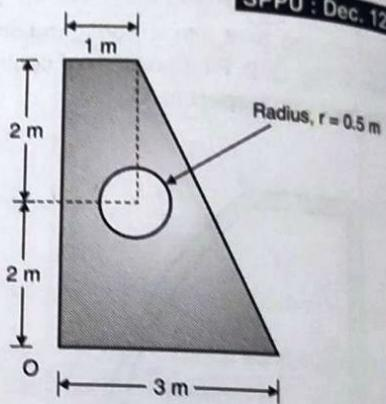

Fig. Q. 11
- Q. 11** Determine the position of centroid of the shaded area as shown in Fig. Q. 11 with respect to origin 'O'.